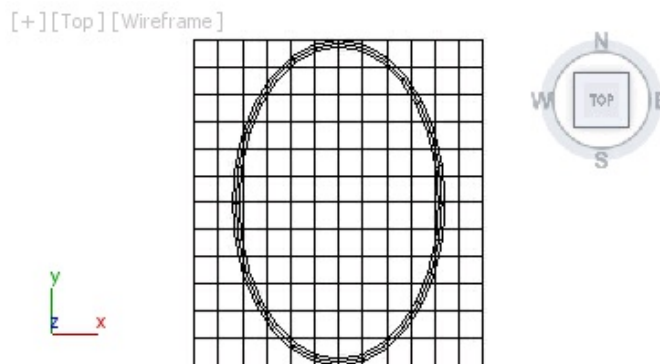

Figure 12-72 The plane created in the Top viewport
6. Modify the name of the plane to *stringed area* and change its color to black. Now, align *stringed area* at the center of *head*, refer to Figure 12-72.